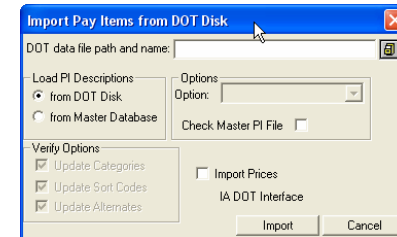

Figure 2.4
Overview: This option is used to load a list of pay items and quantities from a State DOT-supplied bid disk into a project file. This option makes it extremely easy to set a job up, especially one with a long list of pay items. The information loaded from the State disk varies depending on the DOT program, but usually includes: Pay Item Number, Description, Bid Quantity, and Unit Description. Some states also include Category Number, Alternate Codes, and Sort Codes. After selecting this option, you will see the screen shown in Figure 2.4.
- You will then see the screen shown in Figure 2.4. See below for each of the options on this screen.